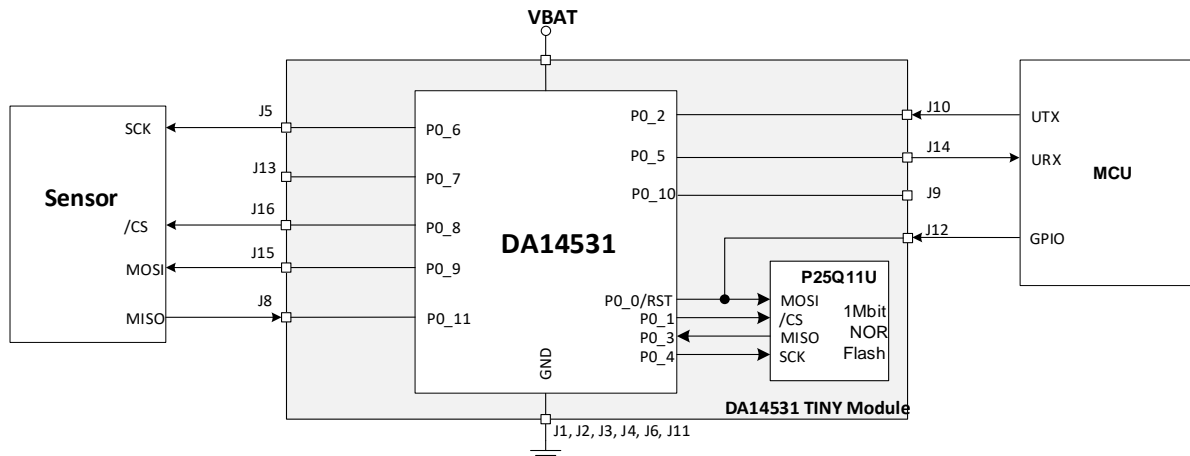

Figure 8. Example of connecting a sensor to the SPI bus and an MCU to RST and UART
- The SPI Bus of DA14531 is used for the communication of the SoC with the NOR Flash at boot time. Three of the four signals are not driven to external module pins. For this reason, a sensor that utilizes the SPI bus must be assigned (by software) to the module pins to communicate with after the boot is completed and when NOR Flash is no longer in use. An example is given in Figure 8.